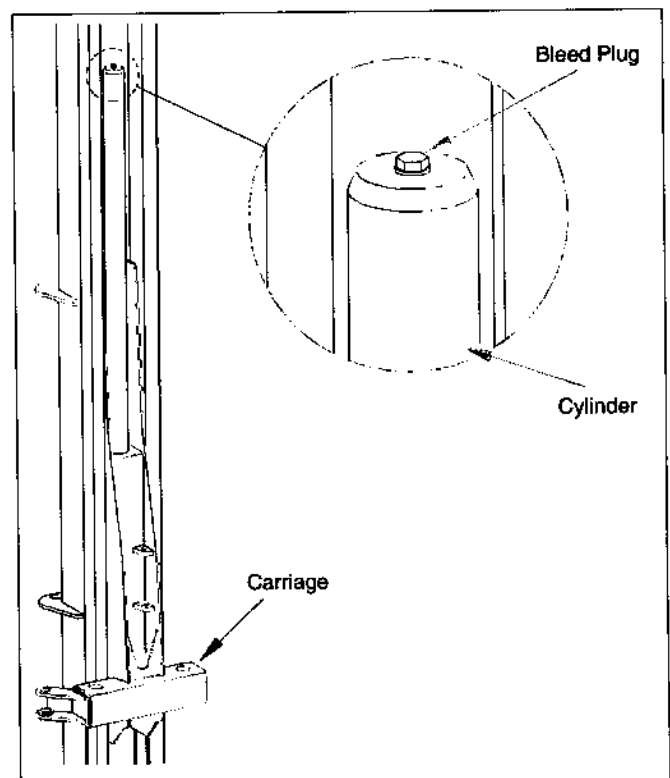

Figure 13 - Cylinder and Bleed Plug Location
2. Loosen, but do not remove, the bleed plug on the top of each cylinder until a steady stream of fluid (no air bubbles) flows from the top of the cylinder. See Figure 13.